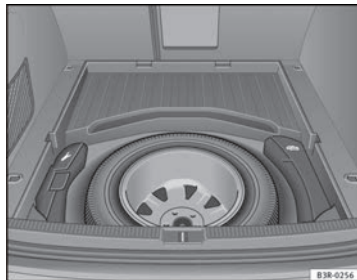

Fig. 195 Spare steel rim wheel
- Turn the plastic knob ⇒ Fig. 195 anticlockwise.